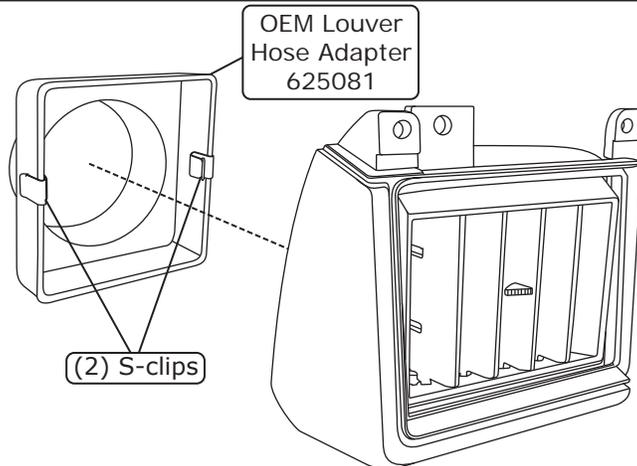

Figure 1
2. Install the driver- and passenger-side hose adapters onto the OEM louvers (See Figure 1, below).